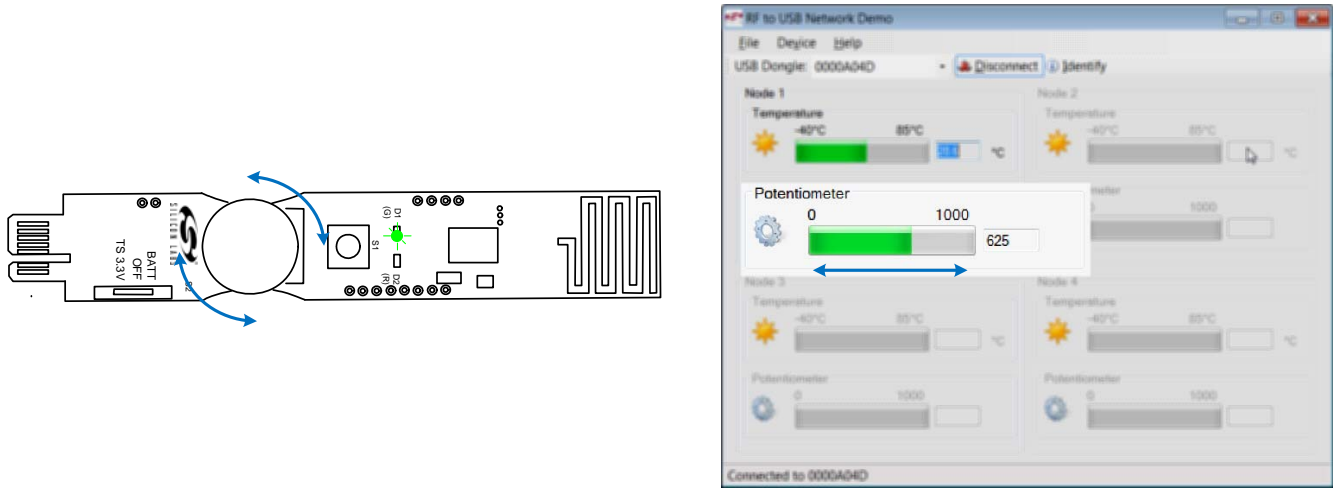

Figure 8. RF USB Node Potentiometer
3. Vary the ADC input by turning the potentiometer as shown in Figure 8.